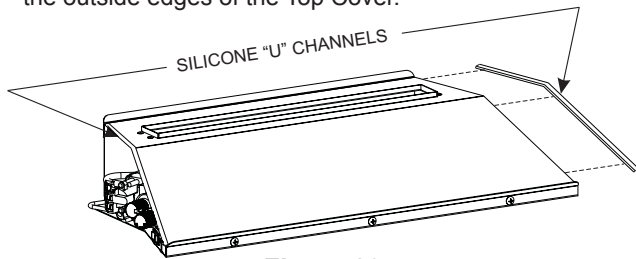

Figure 29
2. Before applying the glass to the burner top, attach the black silicone "U" channel edges (located in the Instruction Envelope) to each side of the Top Cover. **See Figure 29.** These "U" channels will help keep the decorative glass from falling over the outside edges of the Top Cover.